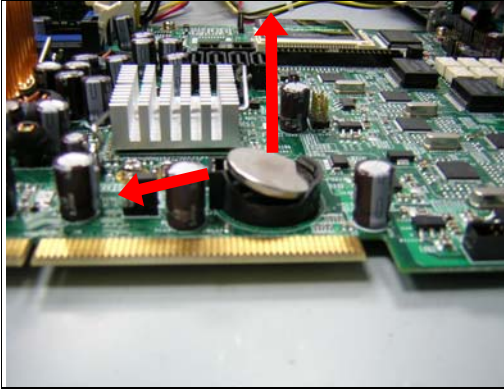

Fig. 8-1 Eject the battery
1. Press the metal clip back to eject the button battery (**Fig. 8-1**).